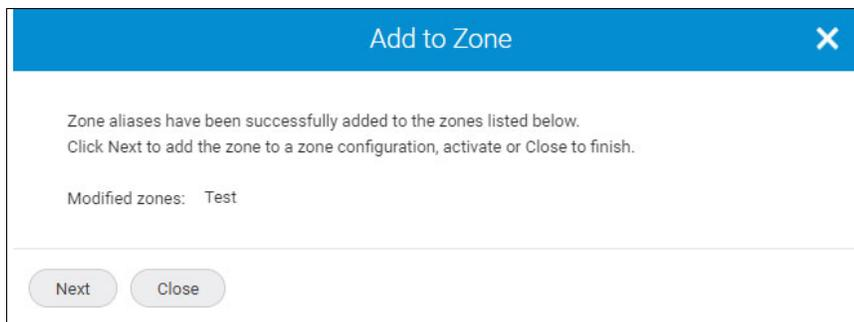

Figure 5-36 Confirmation window
6. In the confirmation window, click **Next** to add the zone to a zone configuration or click **Close** to exit, as shown on Figure 5-36.